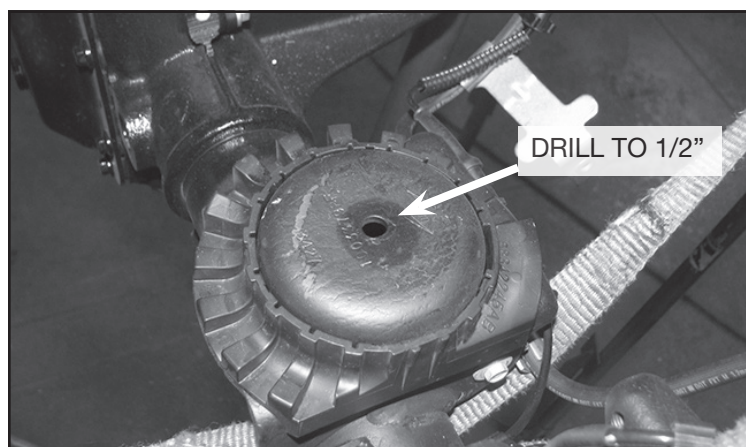

FIGURE 10 - STEP 12
12. On the factory coil spring perch. Use a drill with a 1/2" drill bit and drill out the existing factory hole on both driver & passenger sides. **SEE FIGURE 10**